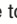

Fig. 19 Right side of the multi-function steering wheel: Controls for the menus and information in the instrument cluster display.
As long as a priority 1 warning message is displayed, no menus can be accessed. To display menus, acknowledge the warning by pressing the **OK** button on the multi-function steering wheel ⇒ *Fig. 19*.
- If a message or the vehicle icon is displayed, push the **OK** button (⇒ Fig. 19) on the right side of the multi-function steering wheel until a main menu appears in the instrument cluster display. For a list of main menus, see ⇒ Instrument cluster menus.
Use the arrow up and down buttons  or  on the multi-function steering wheel ⇒ Fig. 19 to navigate through the available options. A frame may appear around the selected option. Push the **OK** button to select a setting.
Press the  or  button ⇒ Fig. 19.